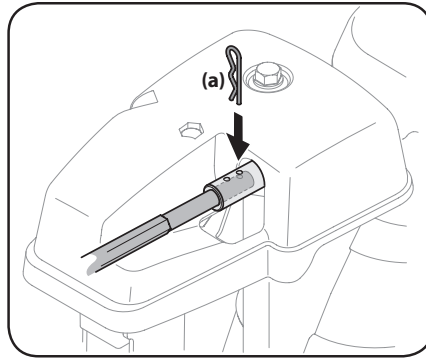

Figure 2-27
7. Push chute control rod toward control panel until hole in rod lines up with hole in chute control input closest to chute control head and insert hairpin clip (a) removed in Step 1. See Figure 2-27.